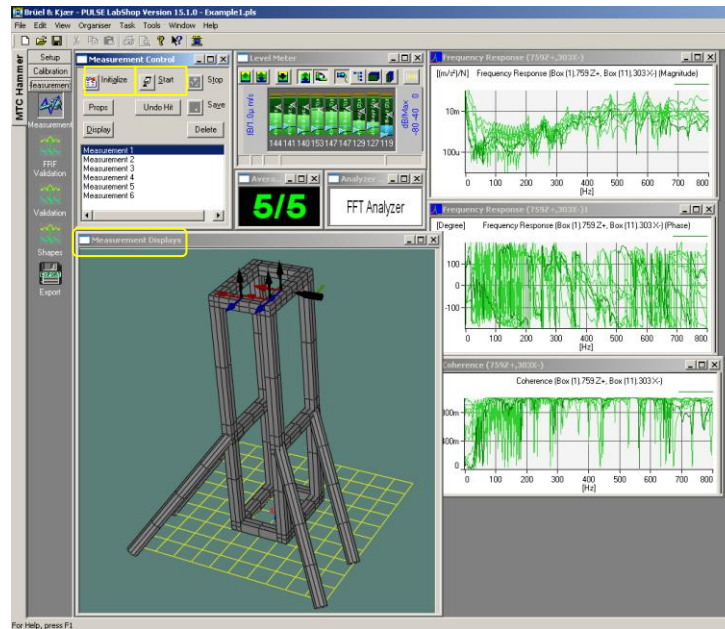

Figure 8: Hit Initialize then Start. Make sure you are taking the measurement that is highlighted and shown on the Measurement Display.
- Click “Initialize” then “Start”. The PULSE LabShop will assume you are taking the measurements in whatever order you have set it up in already. If you highlight the measurement number, the Measurement Display will show you where the excitation point and accelerometers are placed for that measurement. (Figure 8)